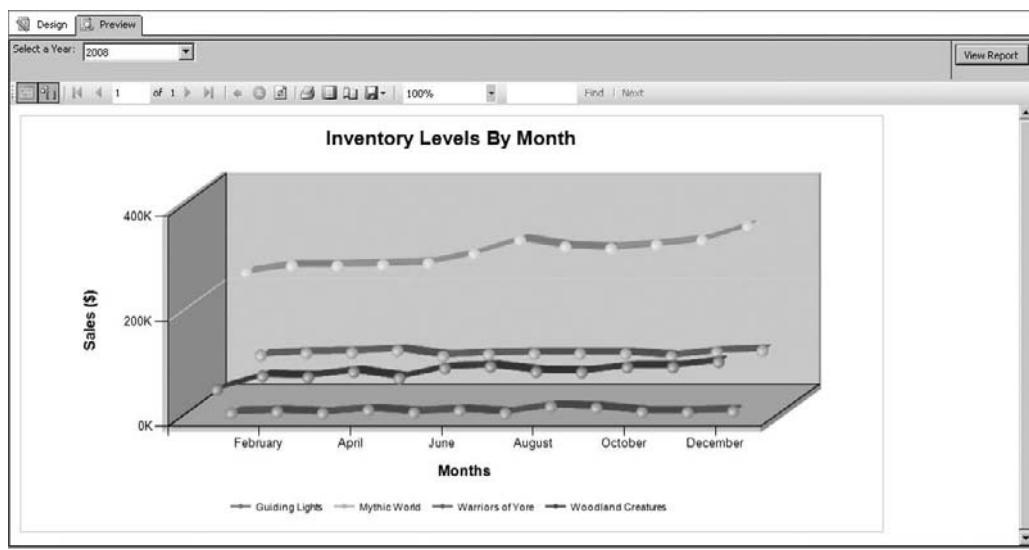

Figure 16-56 The completed chart in the Inventory Levels By Month Report
78. Select the Preview tab. The chart appears as shown in Figure 16-56.